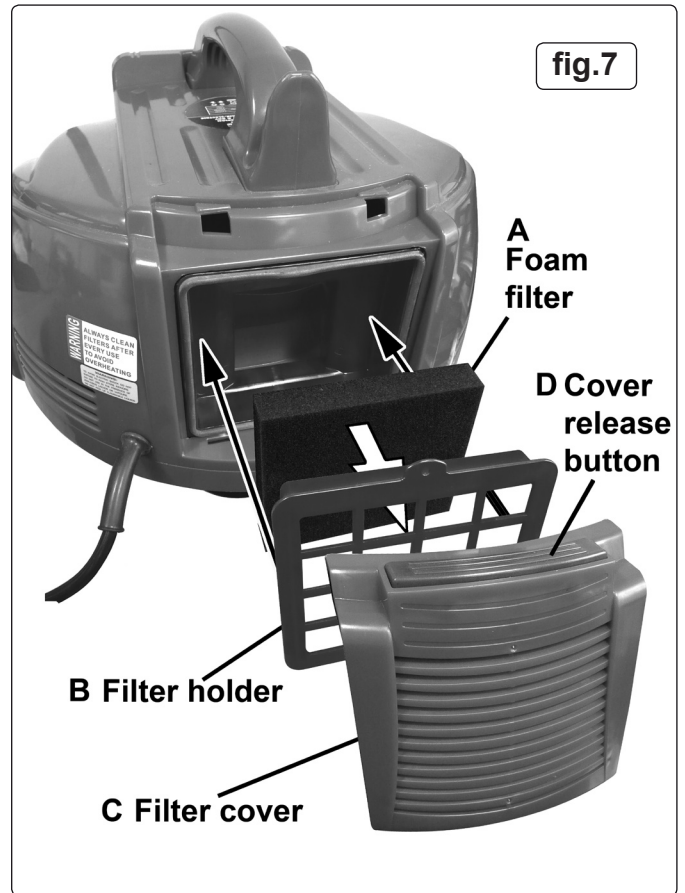

fig.7
**8.5 AIR INLET FILTER. (See fig.7)**